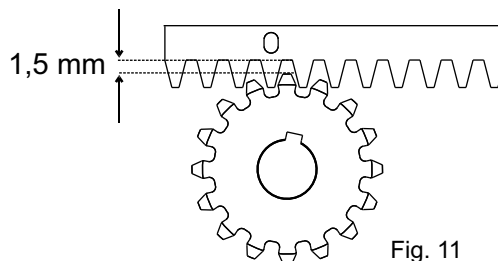

Fig. 11
5.6. To avoid that the door weights down on the pinion (Fig. 11) lift up the whole rack about 1,5 mm.